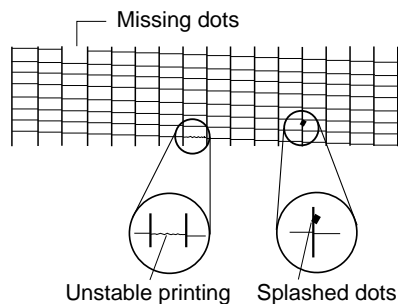

Figure 4-6 Defective Pattern (Sample)
- (1) Check that the orange cap or tape is not on the printhead.
- (2) Carry out nozzle cleaning on the printhead Three times with the cleaning operation, than visually check the test print for non-discharge of ink from nozzle. (Fig. 4-6)
- (3) Remove and reinstall the printhead.
- (4) Replace the appropriate ink tank.
- (5) Replace the printhead.
- (6) Replace the purge unit.
- (1) Carry out nozzle cleaning on the printhead Three times with the cleaning operation, than visually check the test print for non-discharge of ink from nozzle. (Fig. 4-6)
- (2) Remove and reinstall the printhead.
- (3) Replace the appropriate ink tank.
- (4) Replace the printhead.
- (5) Check the connection of the carriage ribbon cable and the SPCNT board. (JHEAD0, JHEAD1)
- (6) Replace the carriage unit.
- (7) Replace the SPCNT board.
- (8) Replace the purge unit.